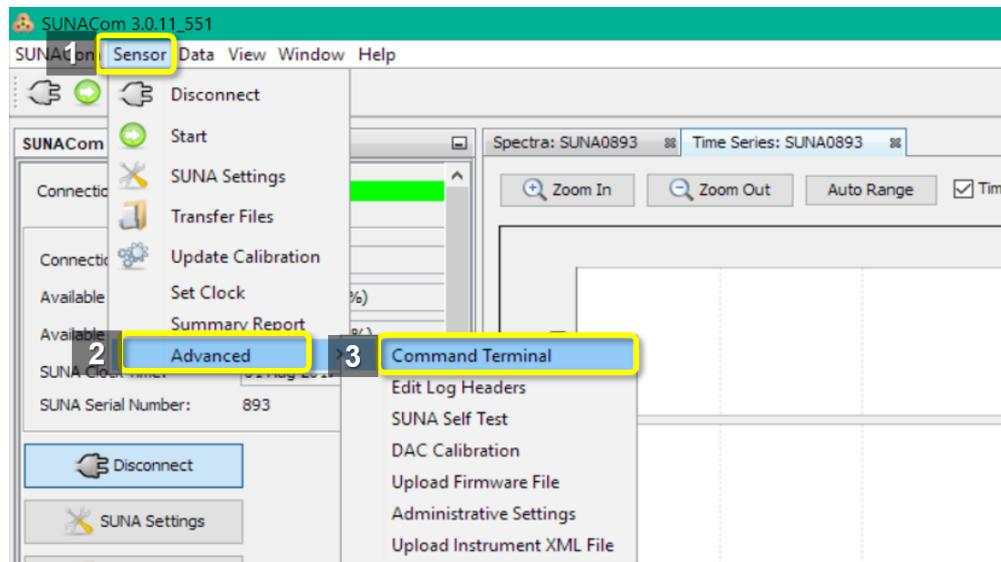

Figure 110. Select "Sensor>Advanced>Command Terminal" from Dropdown
9. In the upper right hand corner, select the “**Sensor**” dropdown (see Figure 110).